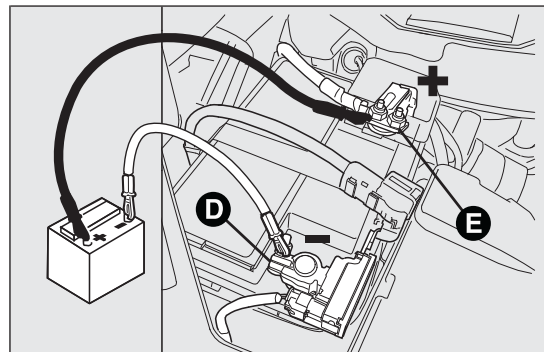

fig. 132
- ☐ connect the positive cable of the battery charger to the positive battery pole E fig. 132 and the negative cable to the terminal of sensor D;